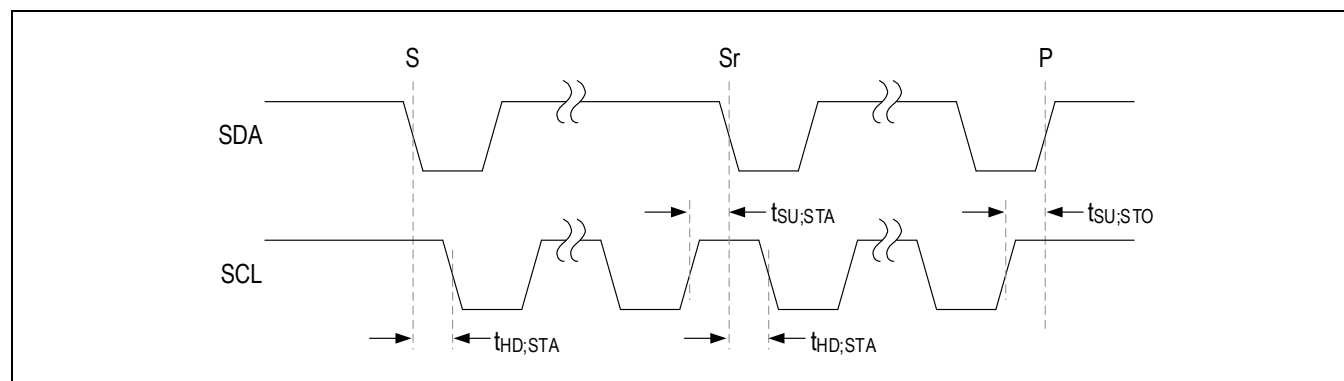

Figure 8. START, STOP, and REPEATED START Conditions
A controller device initiates communication by issuing a START condition. A START condition is a high-to-low transition on SDA with SCL high. A STOP condition is a low-to-high transition on SDA while SCL is high (Figure 8). A START (S) condition from the controller signals the beginning of a transmission to the device. The controller terminates transmission and frees the bus by issuing a STOP (P) condition. The bus remains active if a REPEATED START (Sr) condition is generated instead of a STOP condition.